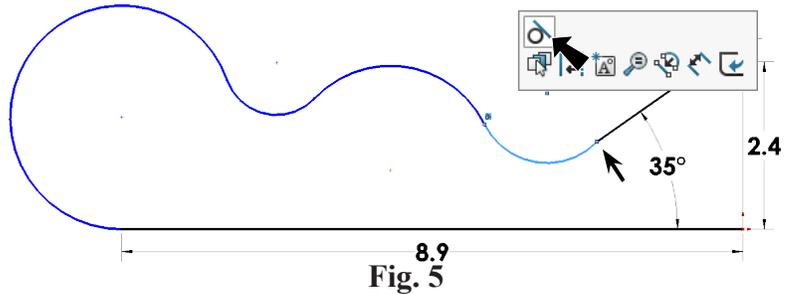

Fig. 4
- Step 1. Click **Centerpoint Arc**  (S) in the Arc flyout  on the Sketch toolbar.
- Step 2. Sketch arc above left endpoint of horizontal line, **Fig. 4**. To Sketch arc, click directly above left endpoint of horizontal line to place the center of arc. Click left endpoint of line to start arc, swing around and click to place the second endpoint.